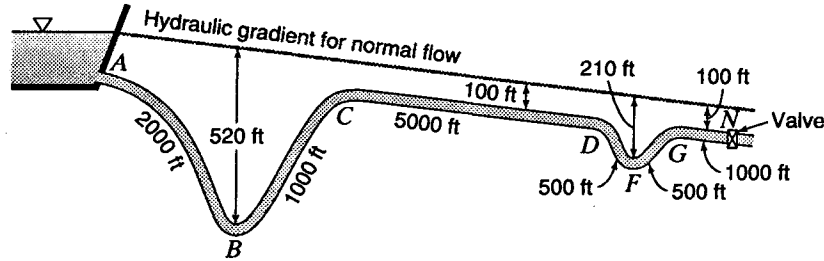

Figure P12.36
- 12.37 Refer to Fig. P12.36, but take all the dimensions given in feet to be in meters instead. This 10-km-long pipe has a diameter of 1.35 m and a wall thickness of 21 mm. Assume  $E = 205 \text{ GPa}$  and  $E_p = 2 \text{ GPa}$ . The initial steady flow velocity is 5 m/s. The valve at G is then partially closed so as to reduce the velocity to 1 m/s in 14 s. Find (a) the maximum pressure rise due to water hammer and (b) the location of the point of maximum total pressure.